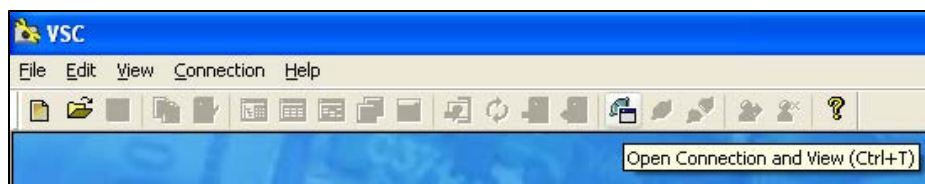

Figure 5-8: Open Connection and View
To open a connection with ECO detectors click the 'Open Connection and View' toolbar Icon as shown in Figure 5-8:
**Note:** For more detailed information regarding the event list **'Trouble Ids'** please refer to Chapter 7 on page 61 of this manual. For more information regarding the use of the **'Active Event List'** and menu please refer to the online help of Xtralis VSC, which is accessible by selecting the "?" button at the top right of the Xtralis VSC toolbar (shown in Figure 5-8). Additionally, context related information for each Trouble ID can be obtained by selecting the required event in the list and pressing the F1 key.